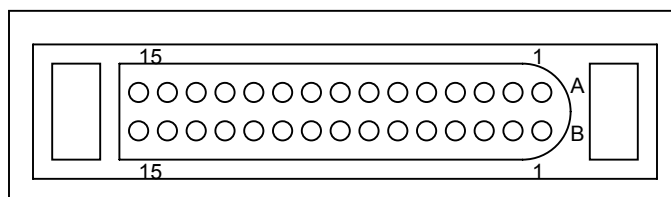

Figure 15: Pin layouts of 30-pin Bendix connector.
Step 2 – Refer to *Figure 15* and Phased Array Connector Pin Assignments – Table 3-3 for the correct pins. Use a Digital Volt Meter (DVM) to check continuity between the appropriate pins at the 30-pin Bendix connector and the RF cable connectors that connect to the phase-shifter board.